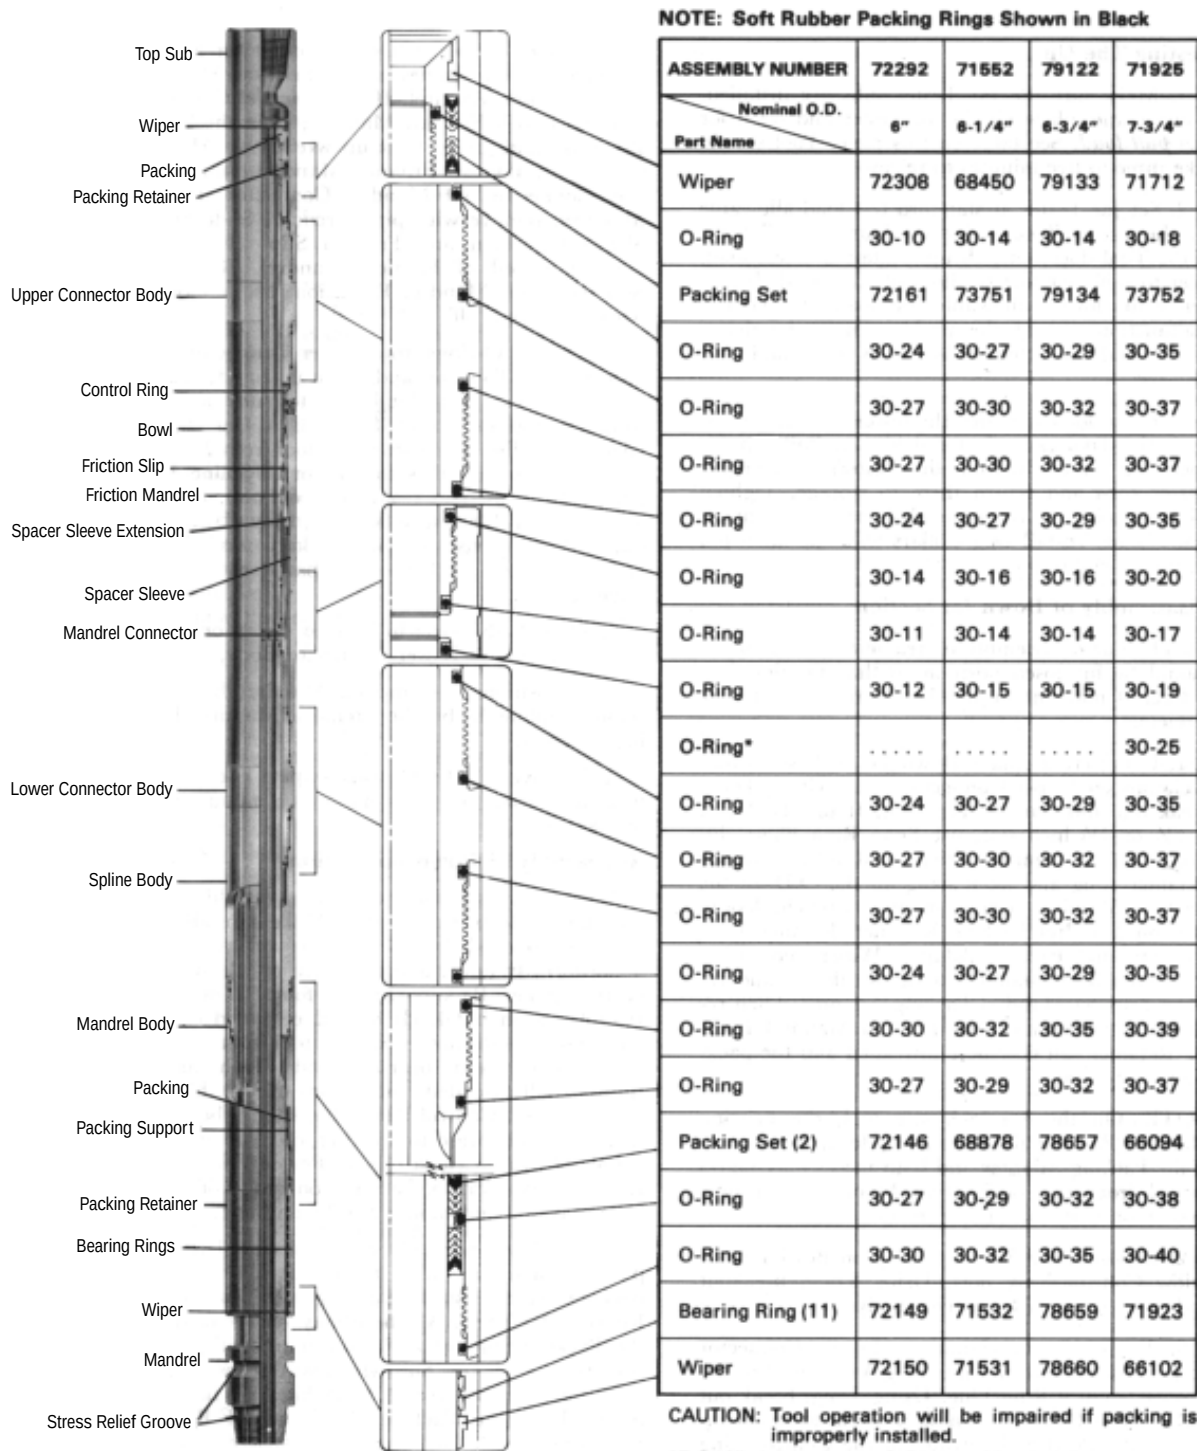

Figure 11
11. If the tool is a 6, 6-1/4, or 7-3/4 inch (see Figure 11) size, it has a Friction Mandrel Packing Adapter that has Packing which is installed from the down end and held with a Retainer and a Retainer Ring. This would normally be made up prior to main assembly along with the O-Ring and Packing Adapter Wiper. Using pipe wrench on undercut of Packing Adapter, make it up to Friction Mandrel. (If burrs are kicked up on undercut area by pipe wrench during make up, file them down and wipe clean before installing Top Sub.)